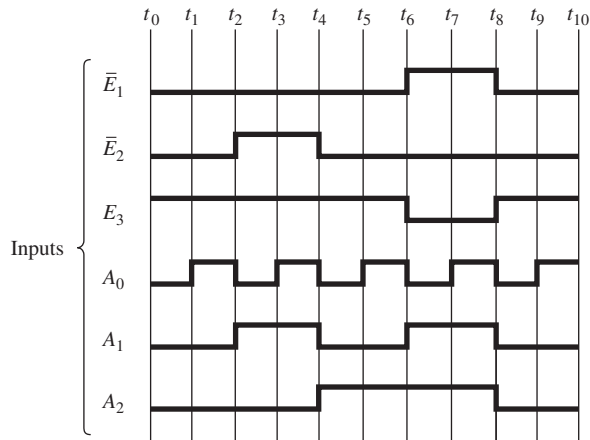

Figure P10
10. Repeat Problem 9 for the input waveforms shown in Figure P10.